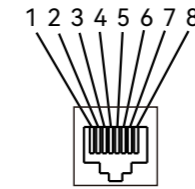

Figure 4.16
1.(Optional) The RS485 cable is prepared by user. It is recommended to strip the RS485 cable and Ethernet wire insulation. Insert the stripped Ethernet wires in correct order into the RJ45 plug (please refer to fig 4.16 and table 4.6 for order) and crimp it with a crimper.